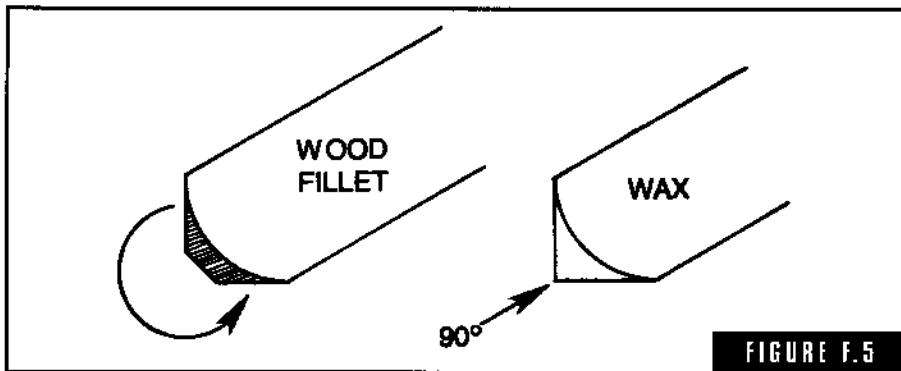

FIGURE F.5
**fillets** Patternmaker's fillets are made of wax, wood, paper, or leather and are used to form a radius on a pattern or core box (Fig. F-5). Wax fillets are applied with a fillet iron. Paper, wood, and leather fillets are glued in place. The choice of which type of fillets to use depends upon the end use of the pattern. For a pattern used only for a limited run now and again, wax is fine; if it is a master from which metal production patterns are to be made, where if the pattern is large or to be used quite often, wood or leather might be the better choice. For small to medium patterns of jobbing work, 90 percent are filleted with wax. Paper fillets went out of use some time back but are available. Wood fillets can be used for straight runs only. They are cut slightly over 90 degrees with the back relieved so that they will form a good tight fit when installed.